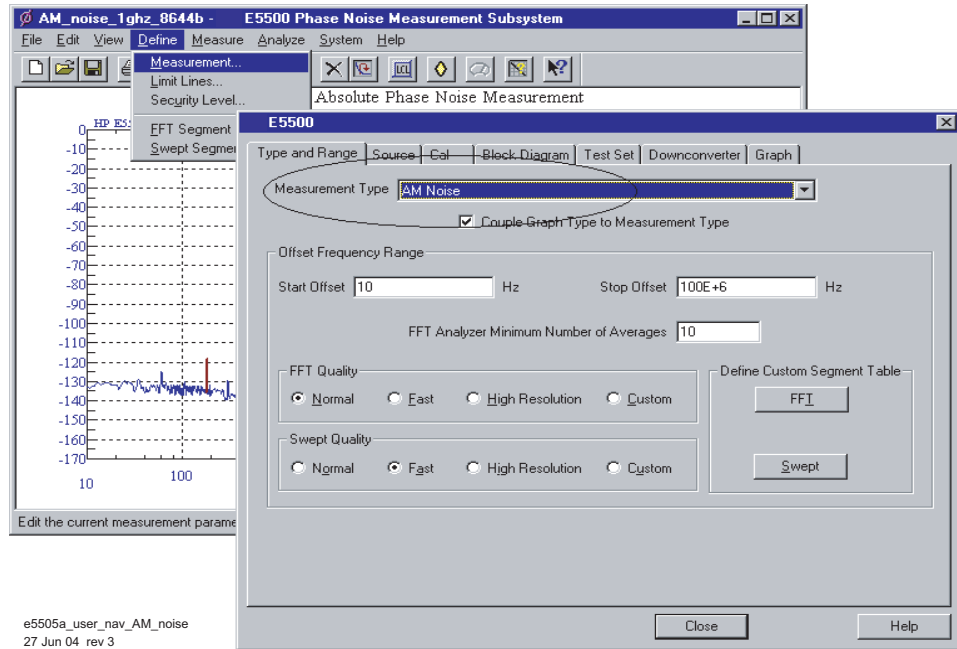

Figure 239 Navigate to AM noise
- 6 From the Measurement Type pull-down, select **AM Noise**. See Figure 239 on page 304